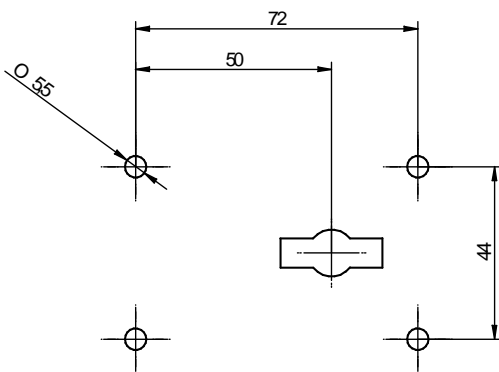

Fig. 4: Fastening hole pattern
- For installation and adjustment of the lock on the door, make sure that the key can be inserted into the lock without having to apply force and without jamming. This can be achieved by mounting the lock according to the following pattern of mounting holes (Fig. 4). For further lock dimensions please refer to the Kaba Mauer Catalogue Sheet. A mounting plate may be used as an alternative.